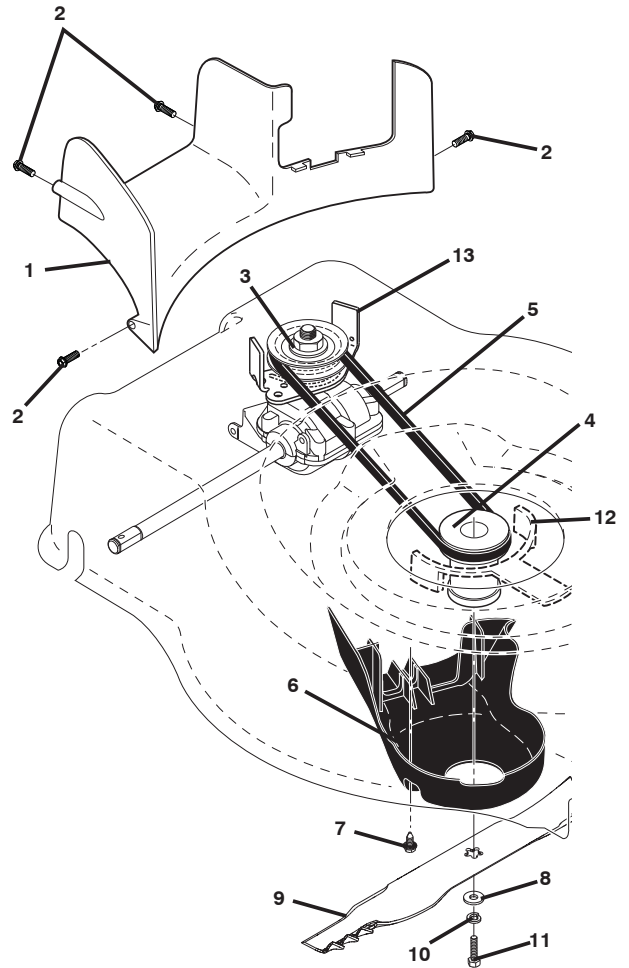

Figure 24
1. Remove screws securing rear baffle (Figure 24).
1. Place new drive belt on gearcase pulley (Figure 24).